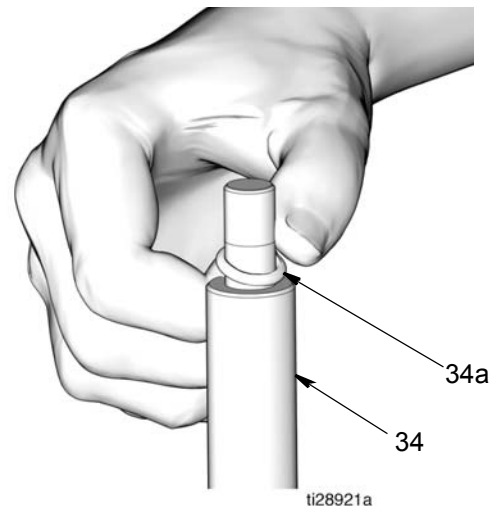

FIG. 30
5. Apply a thin layer of grease to o-ring (34a). Install o-ring over the grooves of piston rod (34) (FIG. 30).